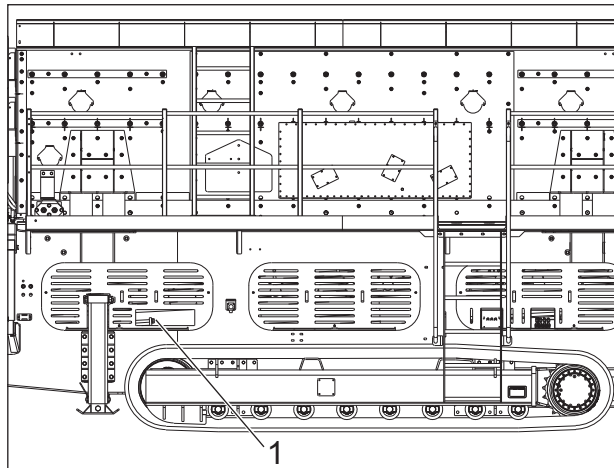
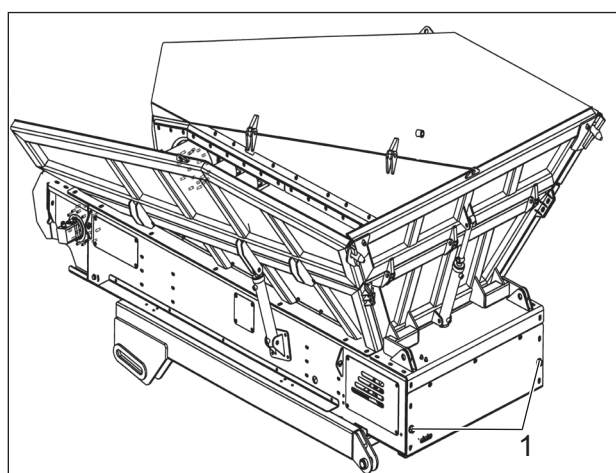

Figure 9.5 - Collection Conveyor Belt Adjuster
Figure 9.10 - Feeder Conveyor Belt Adjusters
6. Tighten the belt by adjusting both belt adjusters (item 1) LHS and RHS evenly, 2 turns at a time until slippage stops, Ref: Figure 9.5 to Figure 9.10.
For safe, proper and efficient operation of the machine, it is important that conveyor belts are properly aligned. The belt alignment can be checked without removing any guard by looking through the viewing apertures. The conveyor belts are aligned by adjusting the drum adjusters, Ref: Figure 9.5 to Figure 9.10